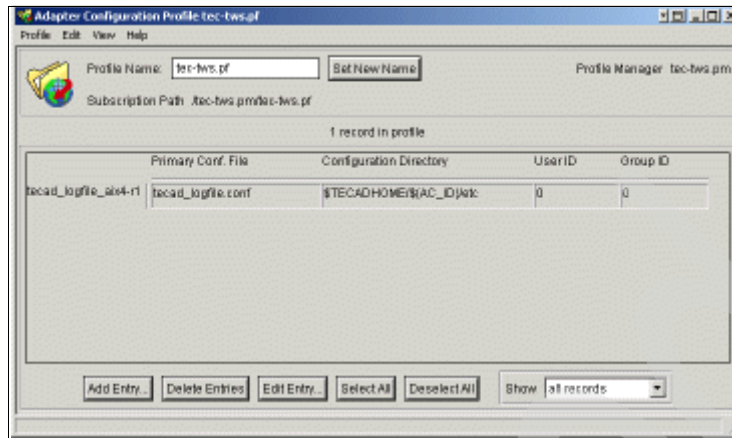

Figure 8-39 Adapter Configuration Profile with new TEC logfile adapter
18. Select **Save & Close**. This returns you to the Adapter Configuration Profile window with the new TEC logfile adapter displayed in the adapter list as shown in Figure 8-39 on page 367.